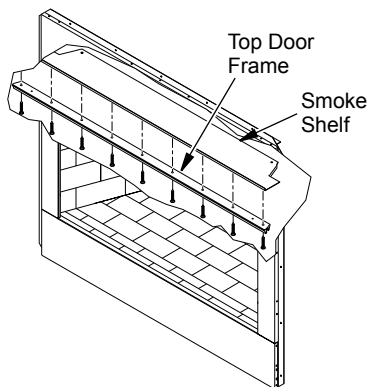

Figure 27 - Installing Top Door Frame
1. Remove screws from smoke shelf (see Figure 27).
2. Mount top door frame and secure with screws provided (see Figure 27).